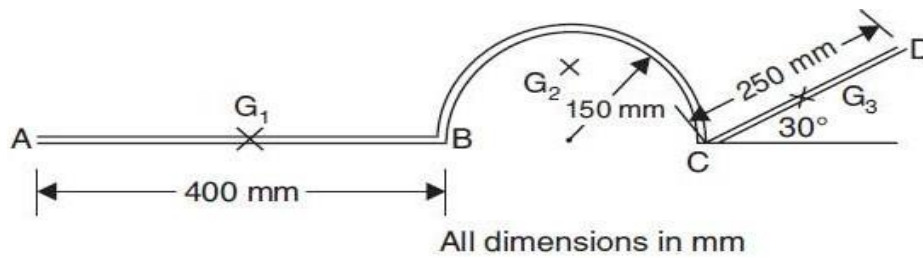

Fig.13
3. Locate the centroid of the uniform wire bent as shown in Fig.13 [10 M]